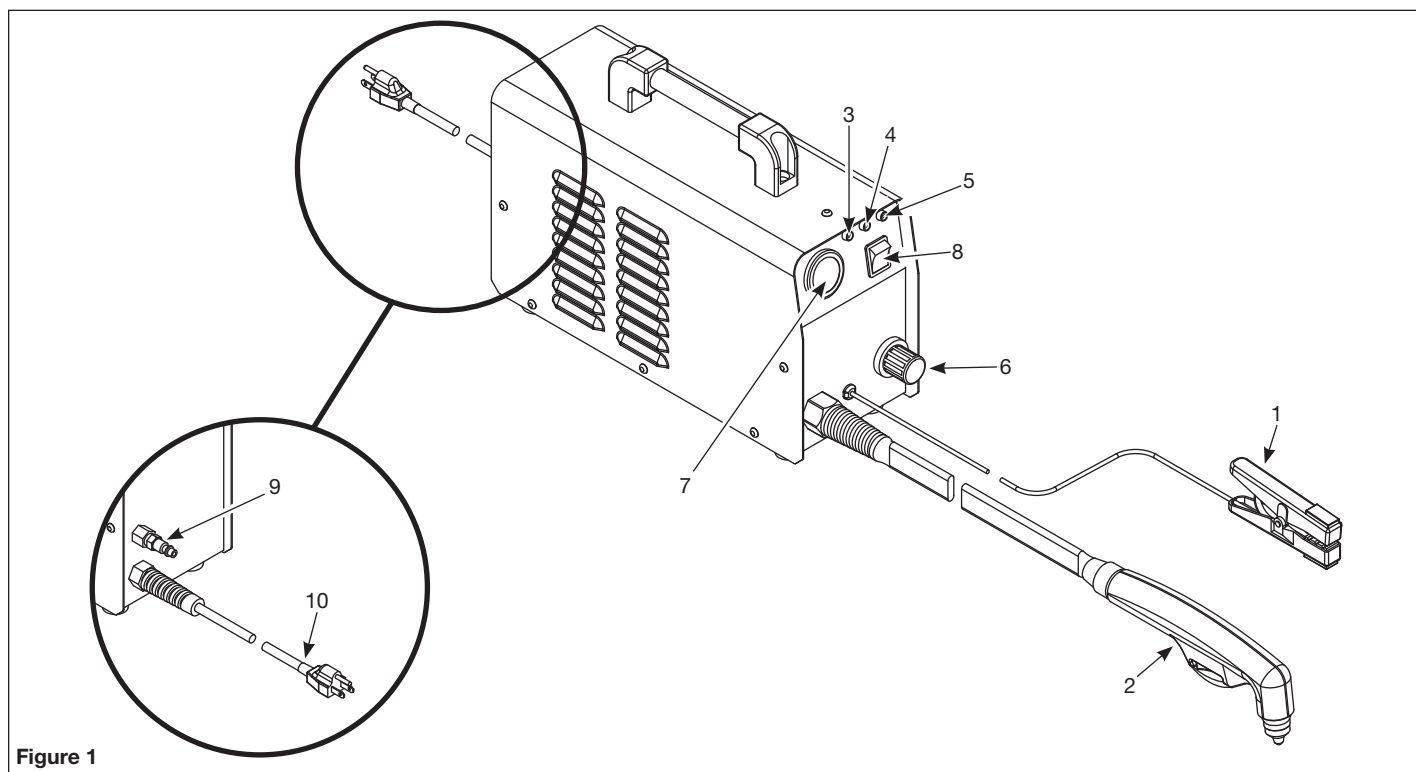

Figure 1
- ◆ Familiarize yourself with the components and controls on this Plasma Cutter. See Figure 1.